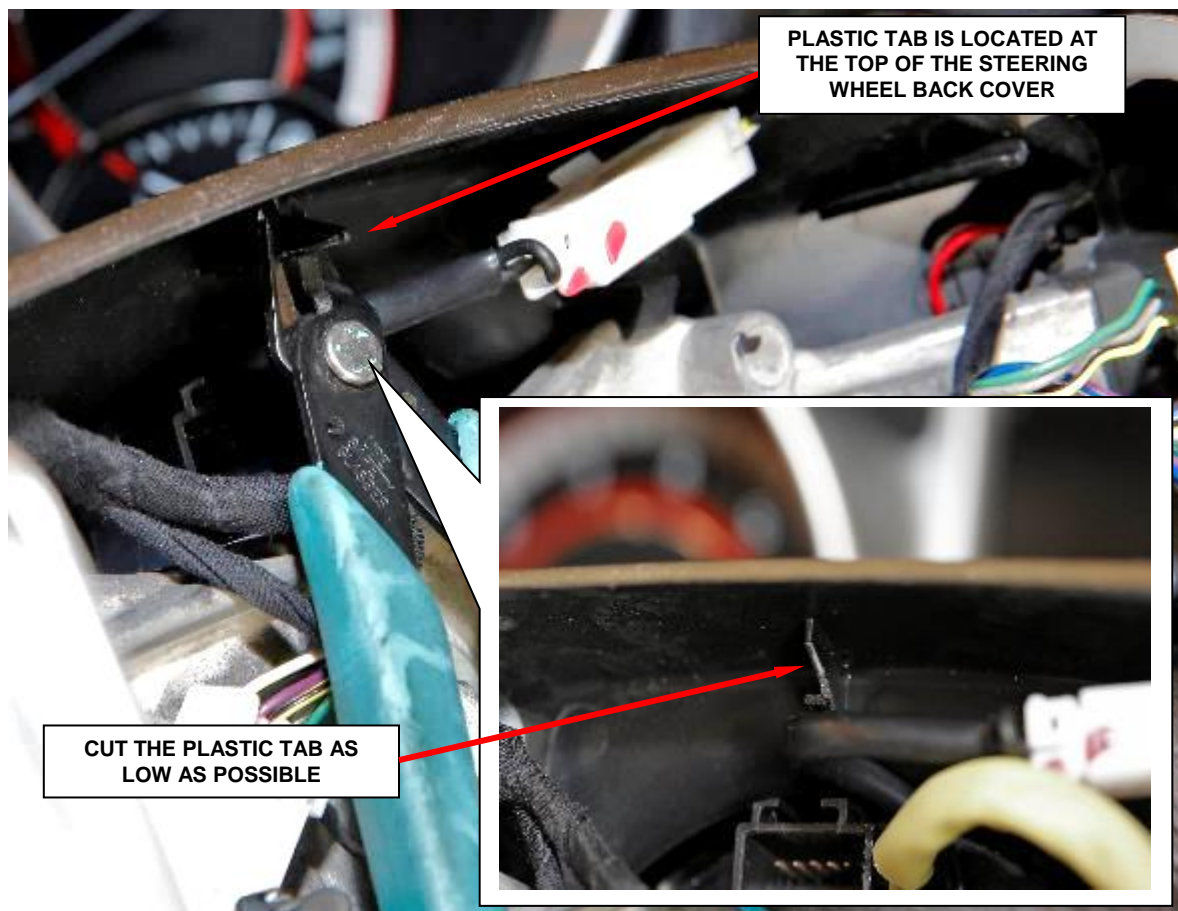

Figure 3 – Plastic Tab Removal
10. Using a diagonal plier or equivalent, remove the free-standing portion of the plastic tab on the steering wheel plastic back cover as shown (Figure 3).